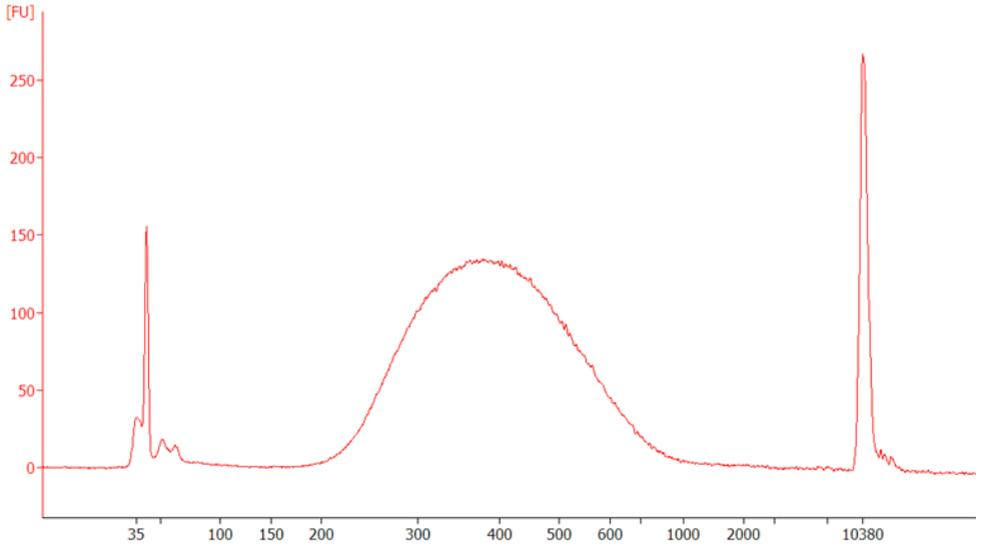

Figure 3. Electrophoresis trace data of a final hybrid capture library pool.
52. Assess the quality and size distribution of the library using a capillary electrophoresis device such as QIAGEN QIAxcel Advanced or Agilent Bioanalyzer 2100. Check for the expected size distribution (see Figure 3). For best sequencing results, quantitate the captured library using a qPCR assay such as the QIAseq Library Quant Assay Kit or compatible method.